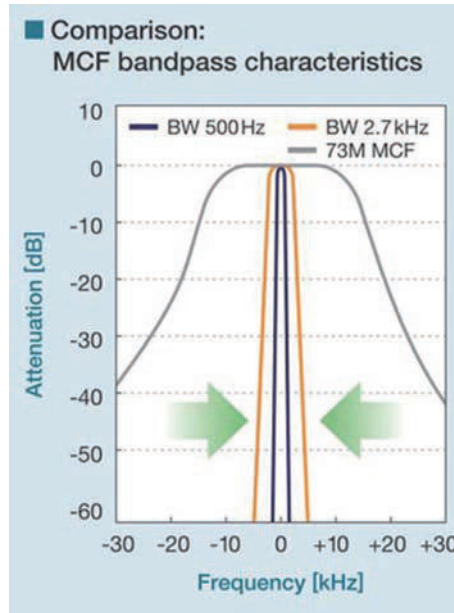
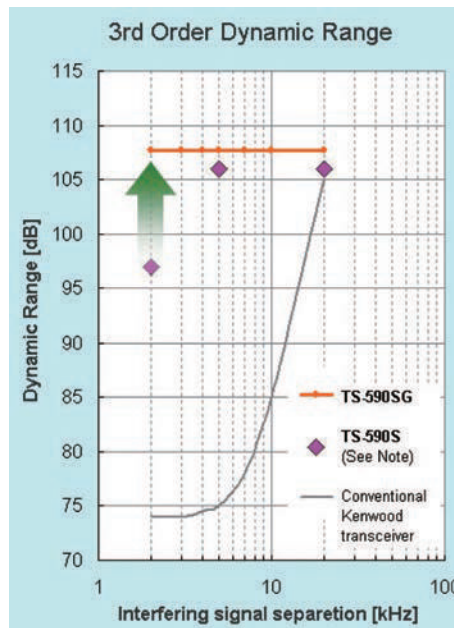

Figure 1-5 Comparison of Bandpass Characteristics of MCFs
Figure 1-6 Comparison of Dynamic Range Characteristics
Figure 1-5 compares the band pass characteristics of a roofing filter of center frequency 73 MHz (gray line); and the roofing filters of the center frequency 11.374 MHz with bandwidth of 500 Hz (blue line) and with bandwidth of 2.7 kHz (orange line) that are both employed by the TS-590S.
Figure 1-6 shows the measurements for the third-order dynamic range characteristics of TS-590SG with the distance from the interfering signal altered. As a comparison, the results for an existing model, TS-480HX/SAT (up-conversion, 500 MHz, built-in CW filter), are displayed side by side with the readings for TS-590S (*extracted from the QST magazine 2011 May issue of product review; reprinted with permission of ARRL).
- ◆ A different measurement method was adopted, which accounts for the different results between the data of the TS-590S published in the catalog and in-depth manual and the ARRL measurements. During measurement of the published data for the TS-590SG, the same method adopted by ARRL is used for measuring the third-order dynamic range to prevent differences from arising as a result of the measurement method. Figure 1-6 shows the measurements for the TS-590SG based on random sampling of the mass-produced items. (Data used in the catalog is obtained based on the prototype.) The outcome is an example, and does not warrant the performance of the product.
Difference of characteristics due to the pass bandwidth in the roofing filter can be viewed in graphs in Figure 1-5 and Figure 1-6. So, let's see the characteristics of the up-conversion system in which the same front end configuration is used as previous models. We will explain using the measurement result that compares the dynamic range characteristics of TS-590S and of previous models in the 50 MHz band.